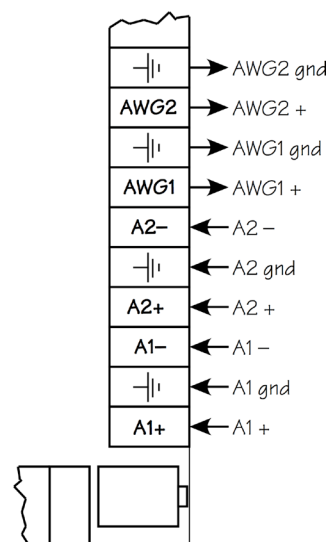

Fig. 2—Red2 terminals
Figure 2 is the arrangement of the connections on the IOBoard. Calibration requires measuring and adjusting voltages at some of the terminals and then using these output ports to automatically calibrate the input ports.
3. Connect your digital multimeter to the AWG1 terminal and its ground. See Fig. 2.
10. On the “AWG Output” line, adjust “Offset (SE)” to get the DMM to read the value just calculated.
2. Connect AWG1 to A1+ and AWG1’s ground to A1–. (See Fig. 2.)